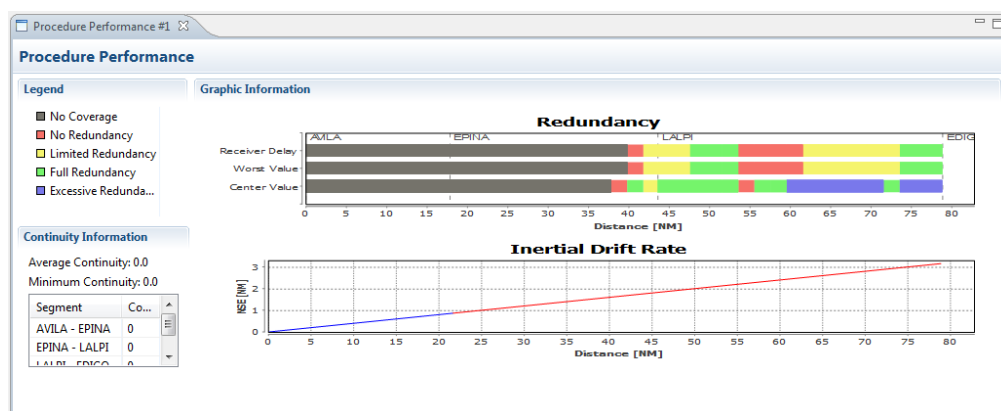

Figure 184: Inertial Drift Rate
9. If "Inertial Drift Rate" is checked, the graph will appear on the bottom of the view (Figure 184). The blue zone of the graph is the positions of the aircraft where it is valid in relation to the runway.